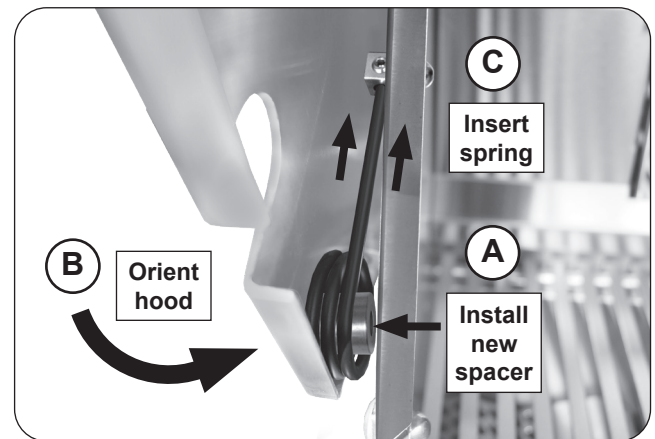

Fig. 2-3 Install hood
7. Ensure the spacers are attached to both sides of the hood cutouts (Fig. 2-3, A), and (using two installers) carefully orient the hood back onto the grill (Fig. 2-3, B). While situating the hood, carefully insert the new spring(s) into the spring mount(s) and secure with an Allen wrench (Fig. 2-3, C).